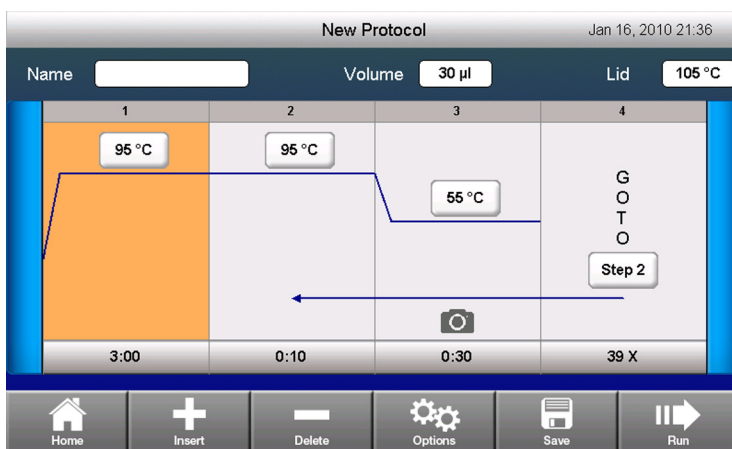
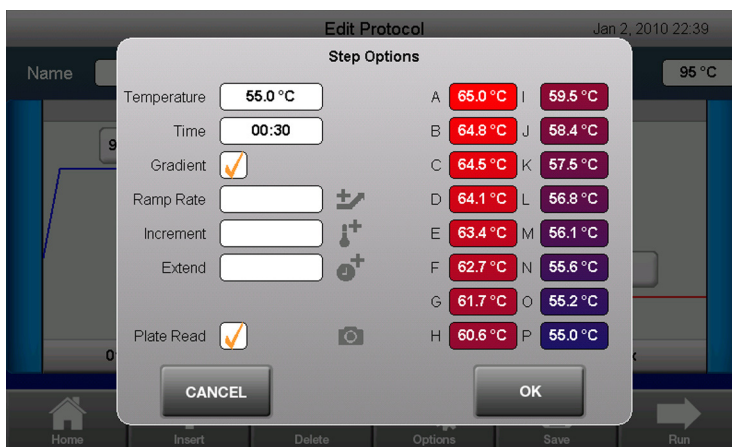

Figure 37. Default real-time PCR protocol.
Figure 38. Step Options window.
1. Select **New Protocol** on the home screen to open a new protocol template (Figure 37).
- (Optional) To insert a new step, select the step prior to the step to be inserted and touch the **Insert** button. The steps that can be entered are Temperature, Gradient, Goto, Plate Read, and Melt Curve. To delete a step, touch the **Delete** button (Figure 37).
- (Optional) To change step options, select the step and touch the **Options** button (Figure 37). In the **Step Options** window, the step parameters that can be changed include the temperature, time, gradient, ramp rate, increment, extension, and add/remove a plate read (Figure 38).
- To change the sample volume, touch the **Volume** field (Figure 37). Enter a new sample volume in microliters. The sample volume you enter determines the temperature control mode that is used during a run.
- To change the lid temperature, touch the **Lid** field and enter a new temperature (Figure 37). The default lid temperatures for the CFX96 and CFX384 modules are 105°C and 95°C, respectively.
1. To run the protocol, touch the **Run** button in the Edit Protocol window (Figure 37).